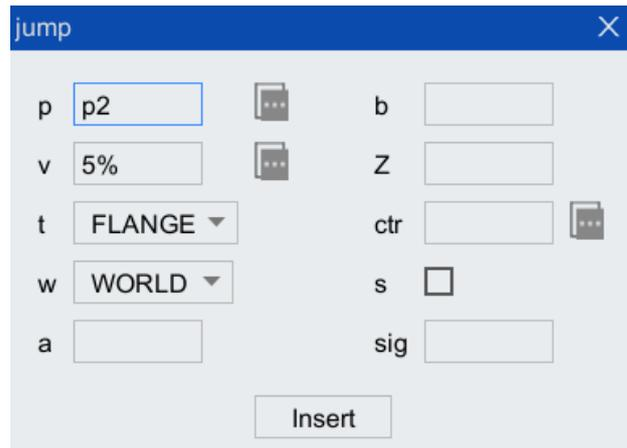

Figure 5-22"Jump"Instruction configuration interface
- Step1. Click "Insert instruction > Motion instruction > jump" option in the toolbar of "Program editor", and the "jump" instruction configuration interface as shown in Figure 5-22 will pop up.
Step9. Click the <insert instruction> button in Figure 5-22, and the "prompt" box of "Create Variable***" pops up, click the <OK> button, the instruction is inserted successfully.